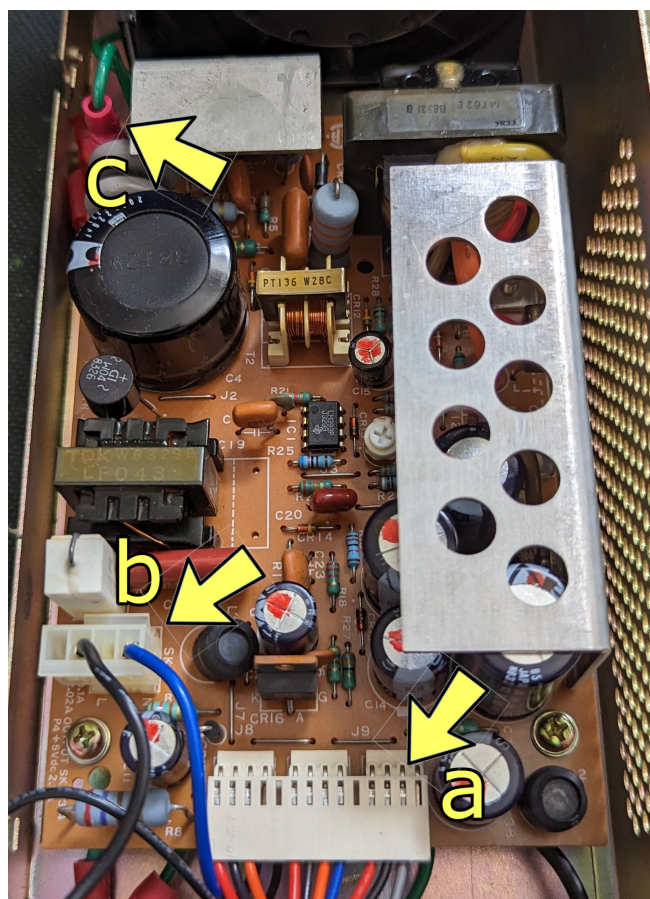

Figure 2.1: PSU connector positions.
3. Disconnect the motherboard (a), mains (b), and ground (c) connectors, as shown in Figure 2.1 below.